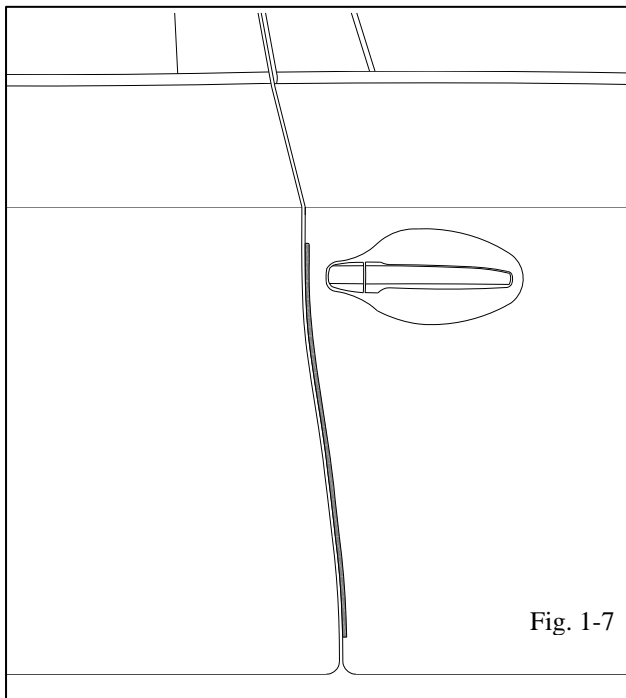

Fig. 1-7
- (i) Carefully close front door and ensure DEG has sufficient clearance from any adjoining body panel. Carefully remove template from door and retain for use on driver side. (Fig. 1-7)